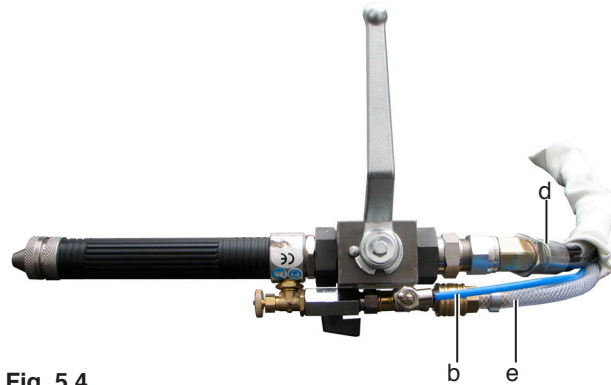

Fig. 5.4
4. Connect the atomizer air hose, the control air pipe and the material hose to the spray tube (Fig. 5.4).